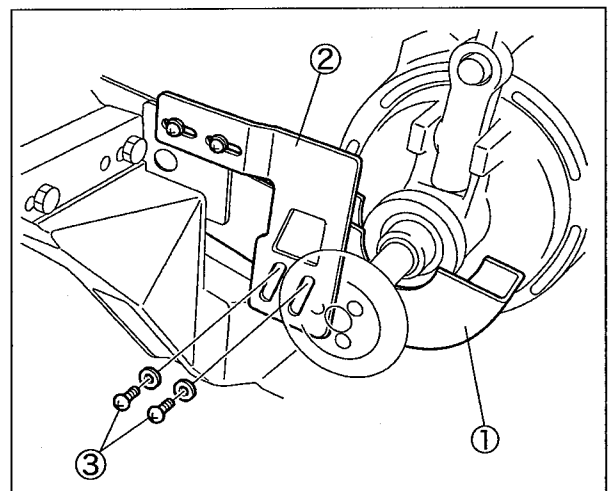

Fig.2-27
- (1) Set the belt cover(lower) ① on the belt cover bracket ② with the screws ③. (Fig. 2-27)